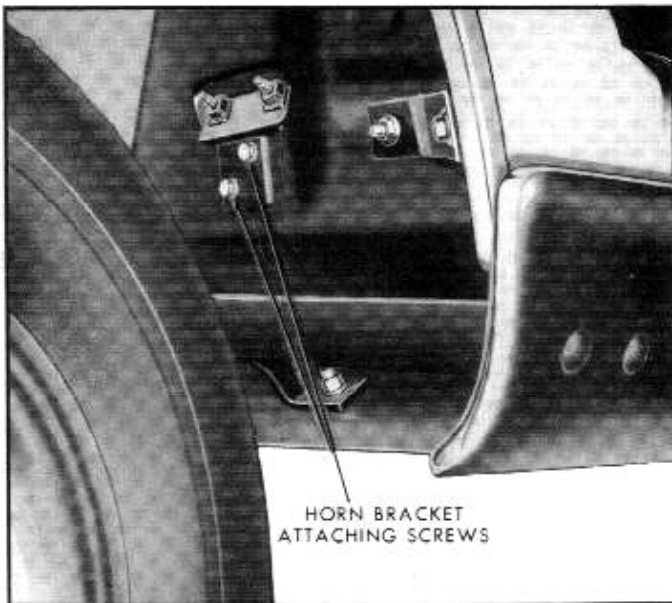

Fig. 11-16—Horn Bracket Attaching Screws
2. To remove the right horn assembly, remove the two horn bracket attaching screws and washers from inside the right front fender. See figure 11-16. To remove the left horn assembly, remove the two attaching screws and washers from inside the left front fender.